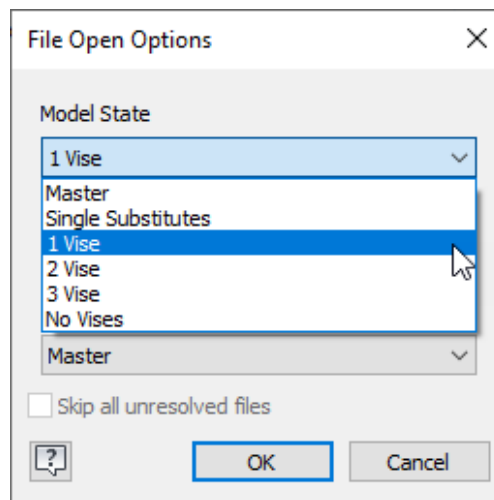

Figure 11
- Using the **New** option to create a presentation file, you can select the template and when prompted to select the assembly, select the assembly name and click **Options** at the bottom of the Insert dialog box. In the File Open Options dialog box, select the required model state for use in the presentation scene, as shown in Figure 11.